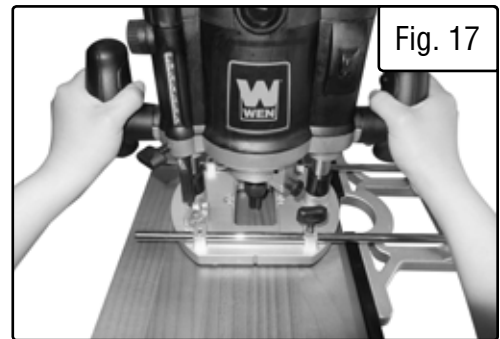

Fig. 17
4. Slide the fence along the straight reference edge of your workpiece, moving the router along the edge in a straight line (Fig. 17).